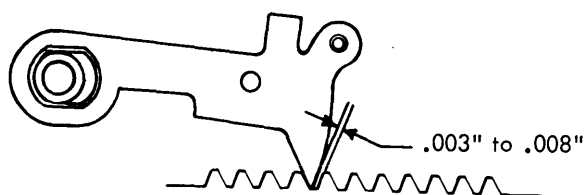
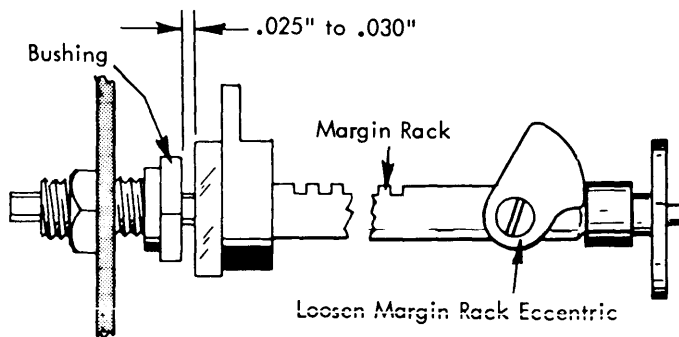

FIGURE 137. Escapement Pawl Check
FIGURE 138. Overbank Adjustment
- a. Old Style - With the carrier held fully to the left against the margin stop, a clearance of .003" to .008" should exist between the working surfaces of the escapement pawl and the escapement rack tooth (Fig. 137). Adjust the left hand margin rack bushing to obtain this condition (Fig. 138).
The overbank adjustment insures that the escapement pawl will enter the correct escapement rack tooth when the carrier return clutch is unlatched at the left margin. The adjustment may be observed from the top with the platen and deflector removed and the left margin stop positioned toward the middle of the rack. The overbank may also be adjusted by adjusting the margin rack bushing to clear the nylon washer on the margin rack by .025" to .030" with the carrier resting at the left margin. The right hand margin rack eccentric should be loose when making this adjustment (Fig. 138) so that the left margin stop will be against the stop latch on the carrier. The .025" to .030" compensates for the .022" floating action in the escapement pawl. (The correct adjustment for the margin rack eccentric is covered under the Margin Control section.)